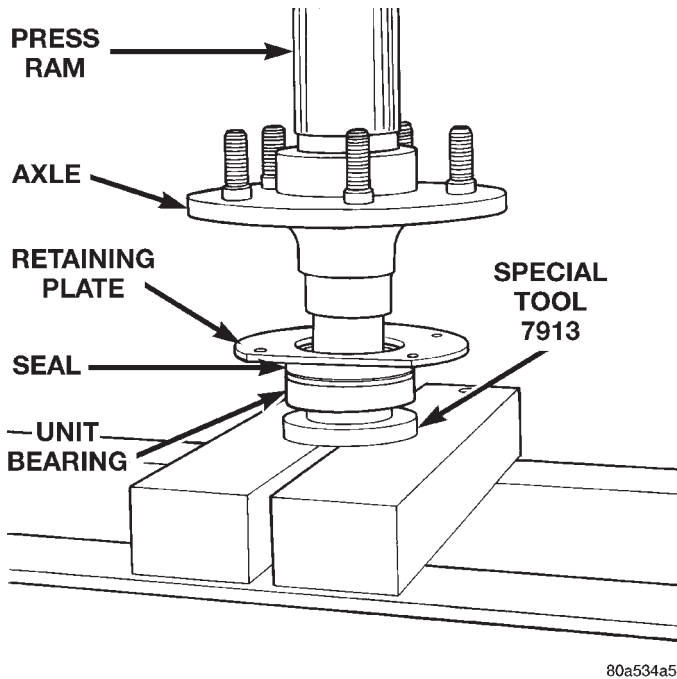

Fig. 29 Press Bearing On Axle
(7) Using Installer 7913 and shop press, press bearing onto axle shaft (Fig. 29).